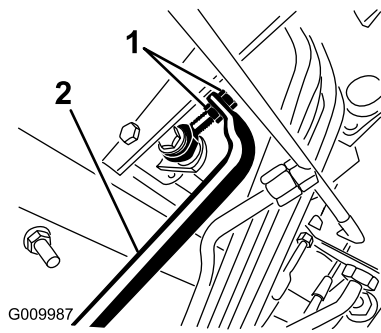

Figure 47
4. Adjust jam nuts on pump rod end to move pump control tube forward to eliminate forward creep or rearward to eliminate rearward creep (Figure 47).